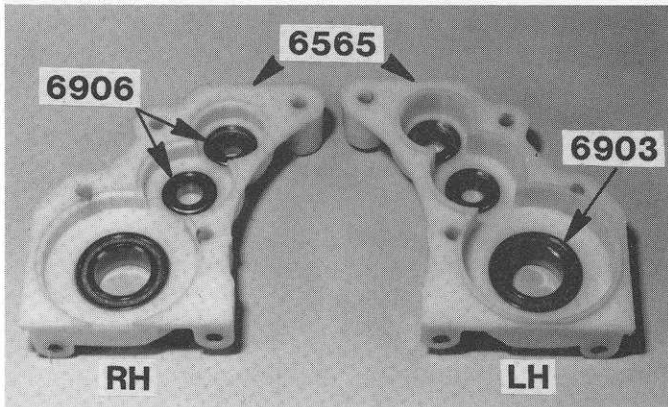

Fig. 57
□ **Fig. 57** Open Bag C and remove the #6565 left and right hand transmission cases (tranny cases), and remove any flash left from molding. Then install the four #6906 upper and two #6903 lower bearings.